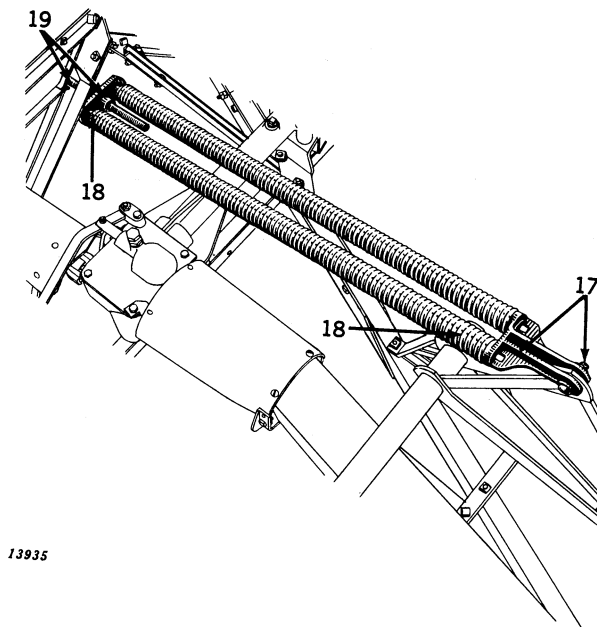

Figure 9
17. (Machines below Serial No. 12-33268) (Figure 9) Secure new lifting spring and clevis to lifting crank with pin and cotter.
18. (Machines below Serial No. 12-33268) (Figure 9) Screw lifting spring, just removed from machine, onto clevis and secure to tie strap with cap screw. Be sure that tapped pipe which is welded to strap is to rear.
19. (Machines below Serial No. 12-33268) (Figure 9) Screw spring tension adjusting bolt into tie strap.